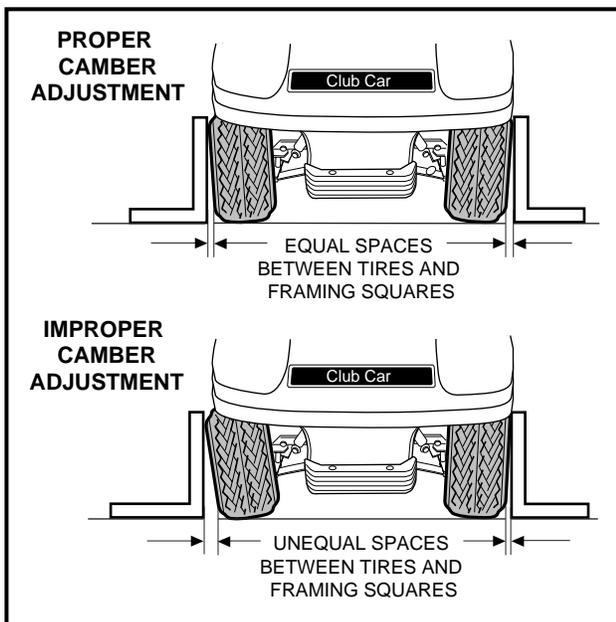

Figure 7-14 Checking Camber Adjustment
1. Check each front wheel with a framing square. Place a framing square next to each tire as shown (**Figure 7-14, Page 7-12**) at the floor (or ground), there should be an equal amount of space between each tire and the framing square.
4. Using a 7 mm deepwell socket, rotate the eccentric to achieve an equal amount of space between the framing square and the tires (**Figures 7-14 and 7-15, Page 7-12**).
5. After aligning front wheels, tighten four spring retaining bolts (30) (**Figure 7-19, Page 7-17**) to 23 ft.lb (31 N-m). Then roll vehicle forward one full tire revolution and recheck camber (**Figure 7-14, Page 7-12**).